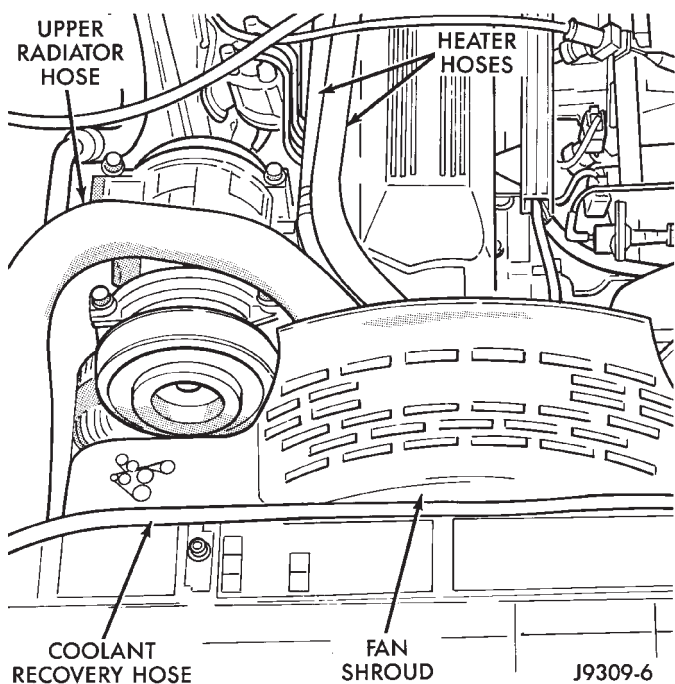

Fig. 9 Upper Radiator Hose, Coolant Recovery Hose, Fan Shroud & Heater hoses
(3) Remove the radiator drain cock and radiator cap to drain the coolant. Do not waste usable coolant. If the solution is clean, drain the coolant into a clean container for reuse.
(4) Remove the upper radiator hose and coolant recovery hose (Fig. 9).
(5) Remove the lower radiator hose.
(6) Remove upper radiator support retaining bolts and remove radiator support.
(7) Remove the fan assembly from the water pump.
(8) Remove the fan shroud (Fig. 9).
(9) Disconnect the transmission fluid cooler tubing (automatic transmission).
(10) Vehicles with Air Conditioning:
(11) Remove the radiator or radiator/condenser (if equipped with A/C).
(12) Disconnect the heater hoses at the engine thermostat housing and water pump (Fig. 9).